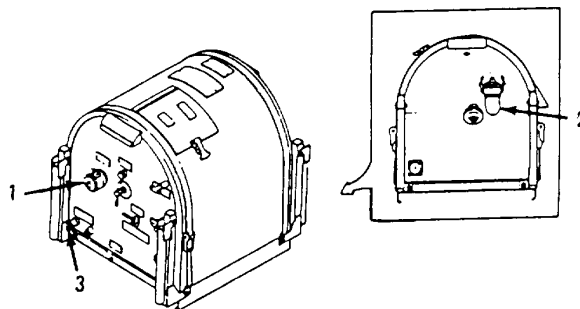

Figure 2-8. Preparation for Movement
2.9 PREPARATION FOR MOVEMENT. (Refer to Figure 2-8.)
- d. Remove suction hose from pump suction connection (1); cap and plug as necessary.
- e. Remove discharge hose from pump discharge connection (2). Disconnect dispensing nozzle and drain fuel into a suitable container; cap and plug nozzle and container as necessary.
- f. Open pump fluid drain cock (3) and allow pump to drain. Close pump fluid drain cock.